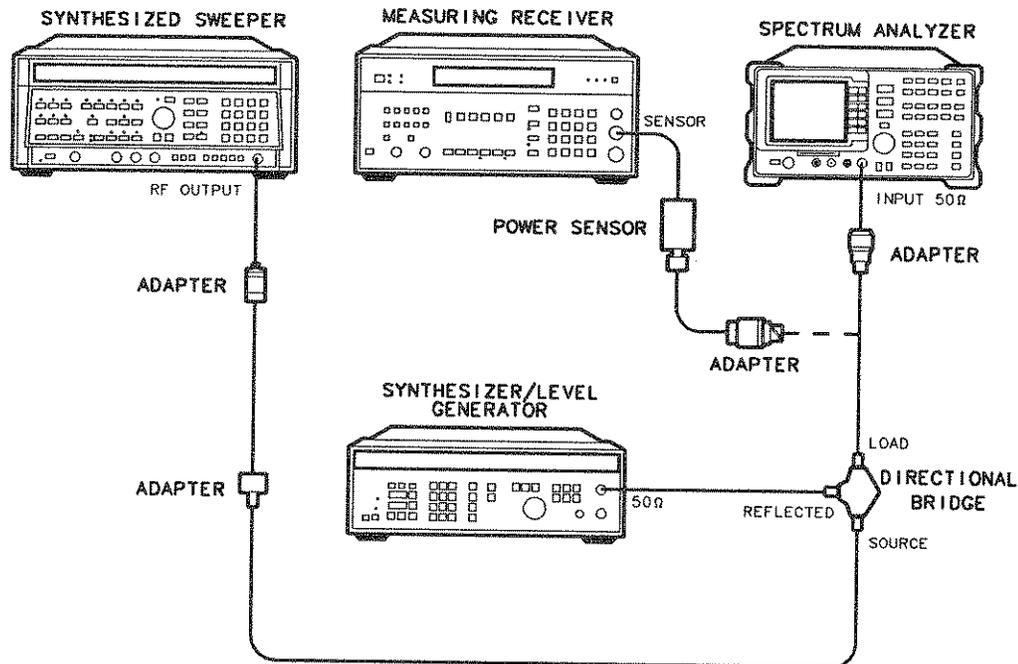

Figure 3-20. Gain Compression Test Setup
2. Connect the equipment as shown in Figure 3-20, with the load (reflected) of the directional coupler connected to the power sensor. *Option 001:* Use the HP 8483A power sensor with a 1250-1534 Type N (f) to BNC (m) 75 Ω adapter and a 1250-1288 BNC (m) to BNC (m) adapter.